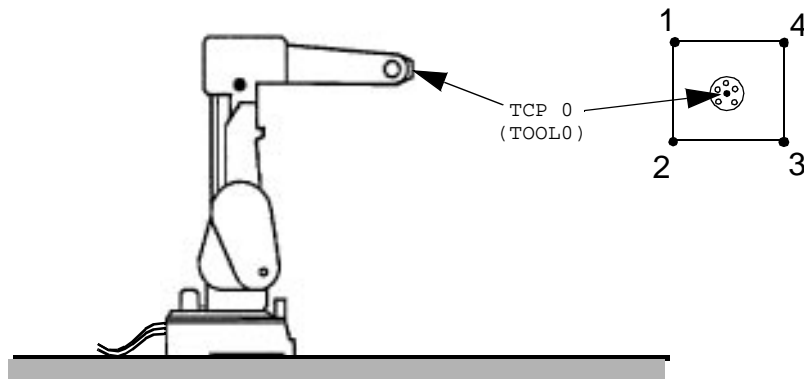

Figure 34 The robot's calibration position
The program consists of four motion instructions and includes positions near the robot's "calibration position" (see Figure 34).
9. Let the robot move to position number 4 (see Figure 34).